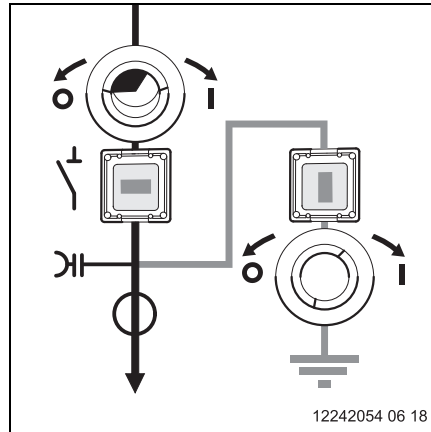

Fig. 61
**7** Switch position with deactivated disconnecter and activated earthing switch (Fig. 61),